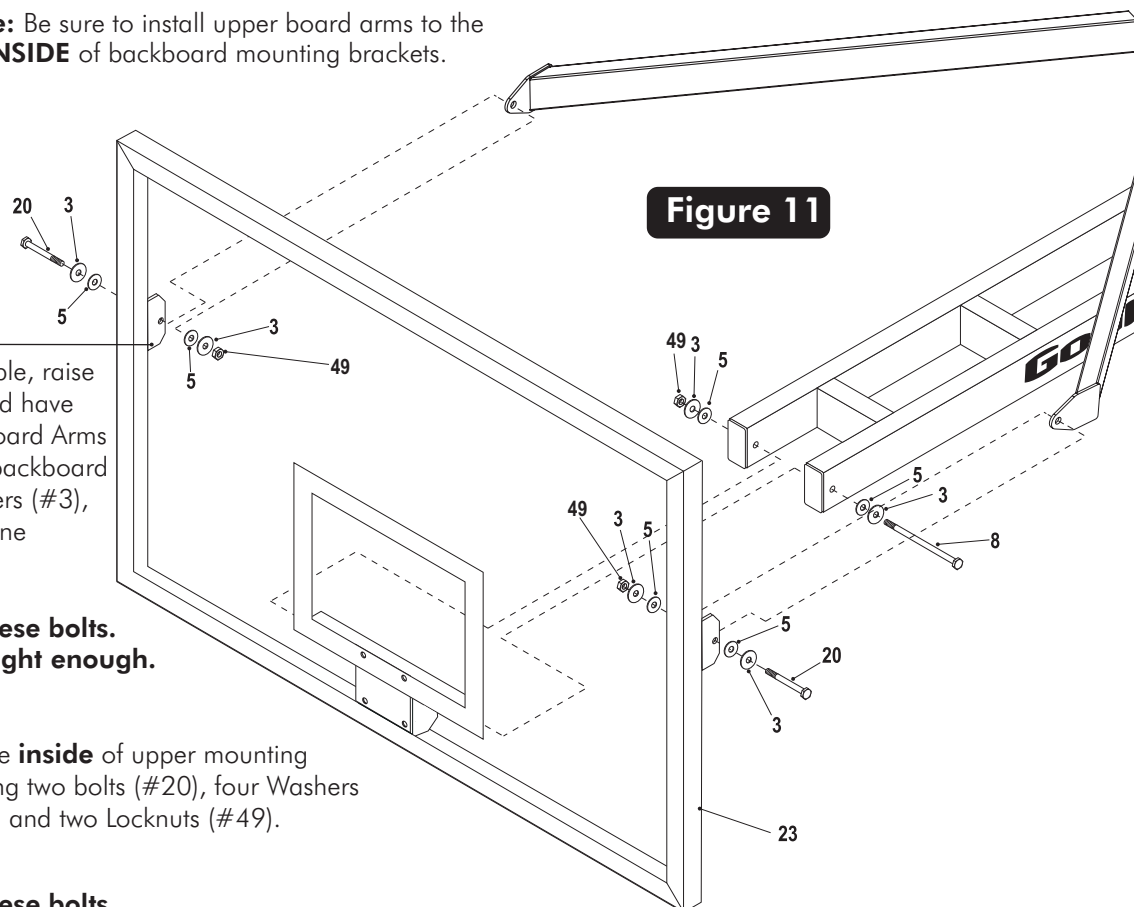

Figure 11
16. With at least four capable people, raise the backboard assembly up and have the fifth person attach Lower Board Arms to the Rim Support (#21) on backboard using one bolt (#8), two washers (#3), two Plastic washers (#5) and one locknut (#49). See Figure 11.
17. Attach Upper Board Arms to the **inside** of upper mounting brackets on the backboard using two bolts (#20), four Washers (#3), four Plastic Washers (#5) and two Locknuts (#49). See Figure 11 and Detail A2.